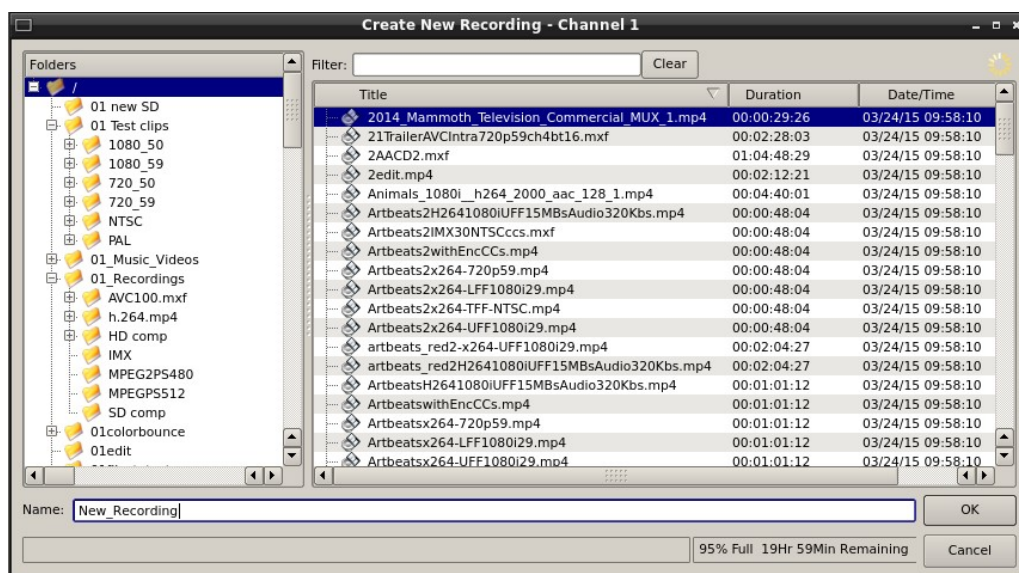

Figure 9 - Channel 1 Create New Recording dialog
- From the Record Channel Transport Window, Select **FILE>NEW**. The dialog of **Figure 9** below appears.